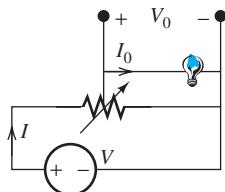

FIGURE P3.78 Circuit for Problem 3.78.
- 3.78** (H) The light bulb shown in Figure P3.78 has a resistance of $R_0 = 2 \Omega$. The working voltage $V_0 = 4.5$ V. $V = 6$ V. Find the conditions under which the power efficiency η (defined as the ratio of the power consumed by the bulb and the power provided by the source) is maximum.